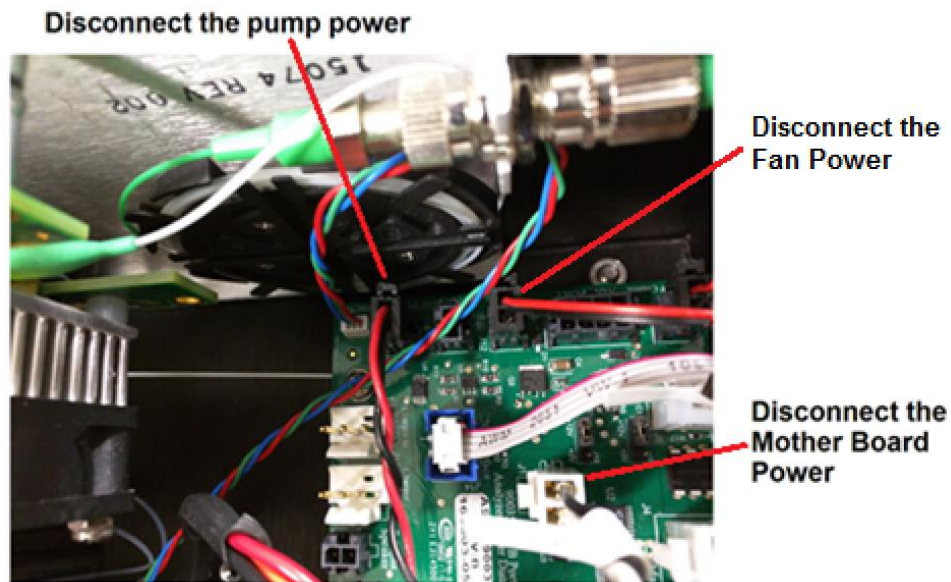

Figure 45. Analyzer Power Distribution Board
1. Remove the fan's power connector from the *Analyzer Power Distribution Board*. Figure 45.